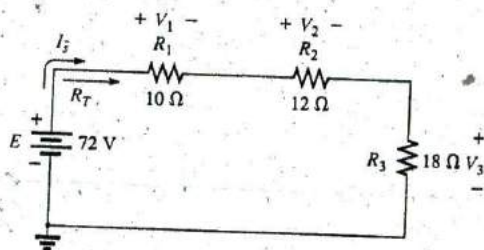

FIG. 5.92
8. For the series configuration in Fig. 5.92, constructed of standard values: